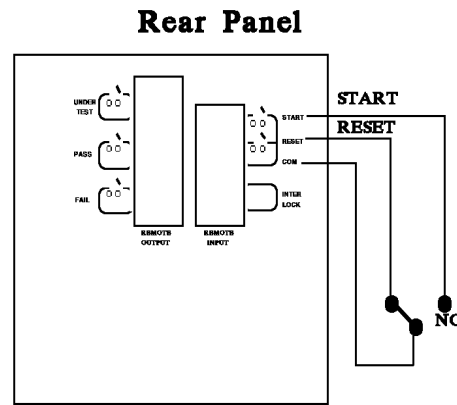

Figure 4-2
2. As Figure 4-2, the main unit is under STOP status. NC point is connecting to STOP and NO point connecting to START.